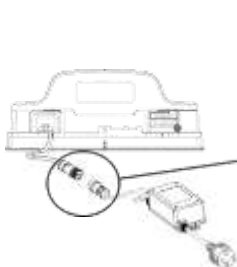

Fig.20A
6. Connect the charger to the charging station. Align the arrow on the charger station's power cord connector with the arrow on the charger connector, insert the connector with each other and then tighten the knob (Fig.20A/Fig.20B).